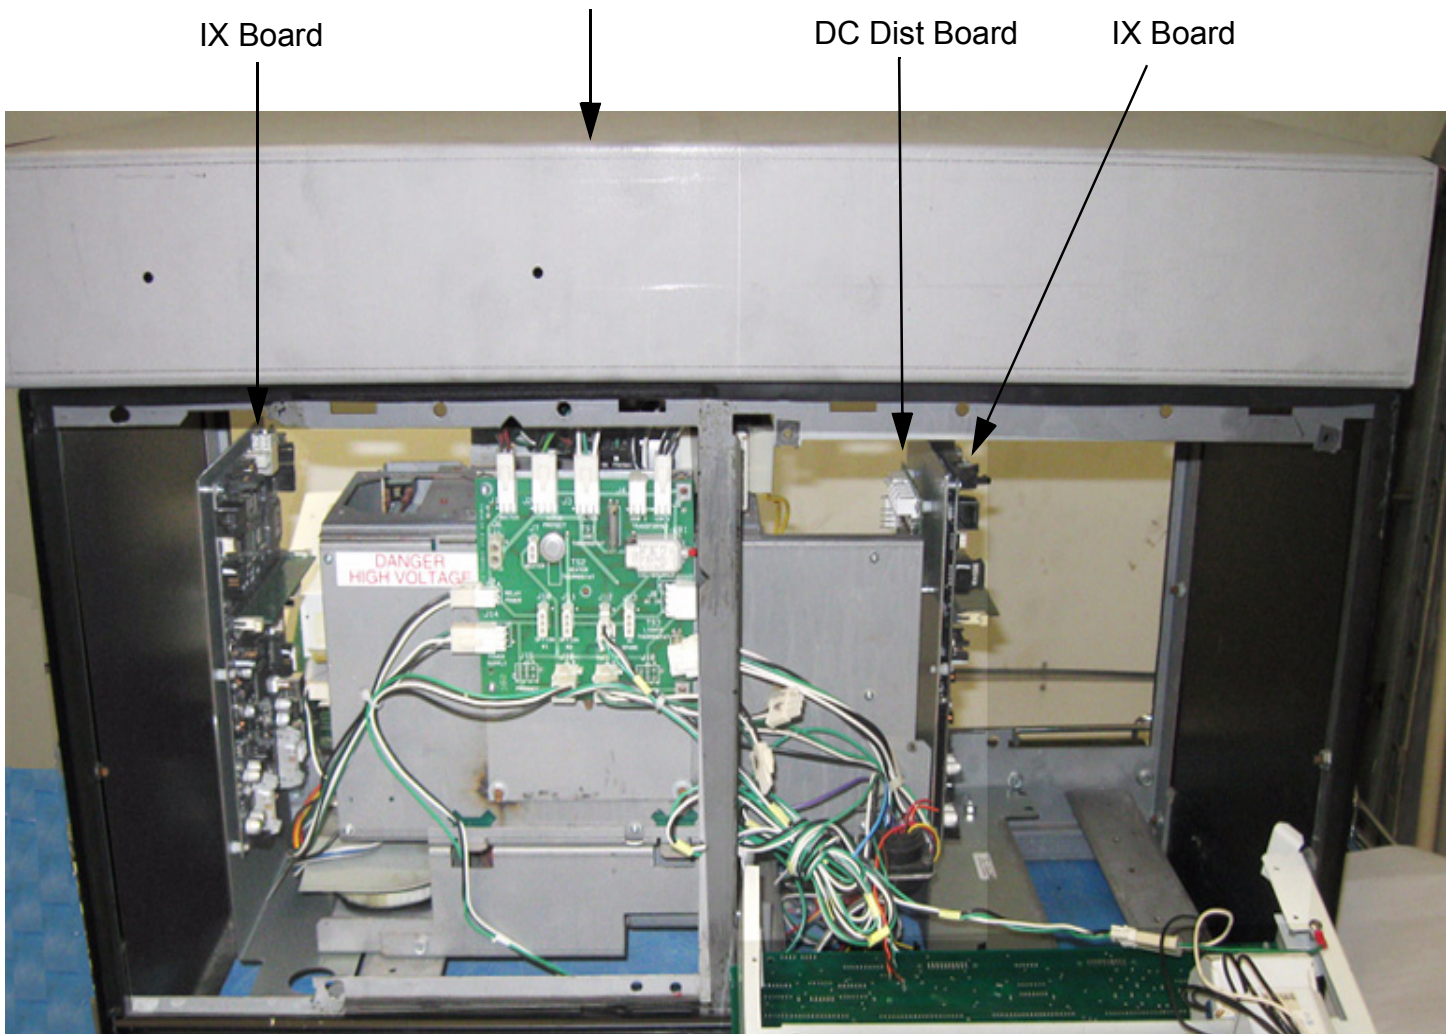

FIGURE 14
15. Install (1) iX Bracket onto the bottom rails in the head reusing (2) of the existing screws saved from the old bracket or using (2) new 1/4-20 sheet metal screws (69-55392). Note: The iX bracket **without** the DC Dist board will be installed closest to the existing power supply. Fig 14.
17. Place the Top Cover Frame (WU002069-0001) on top of the electronics head. Fig 14.